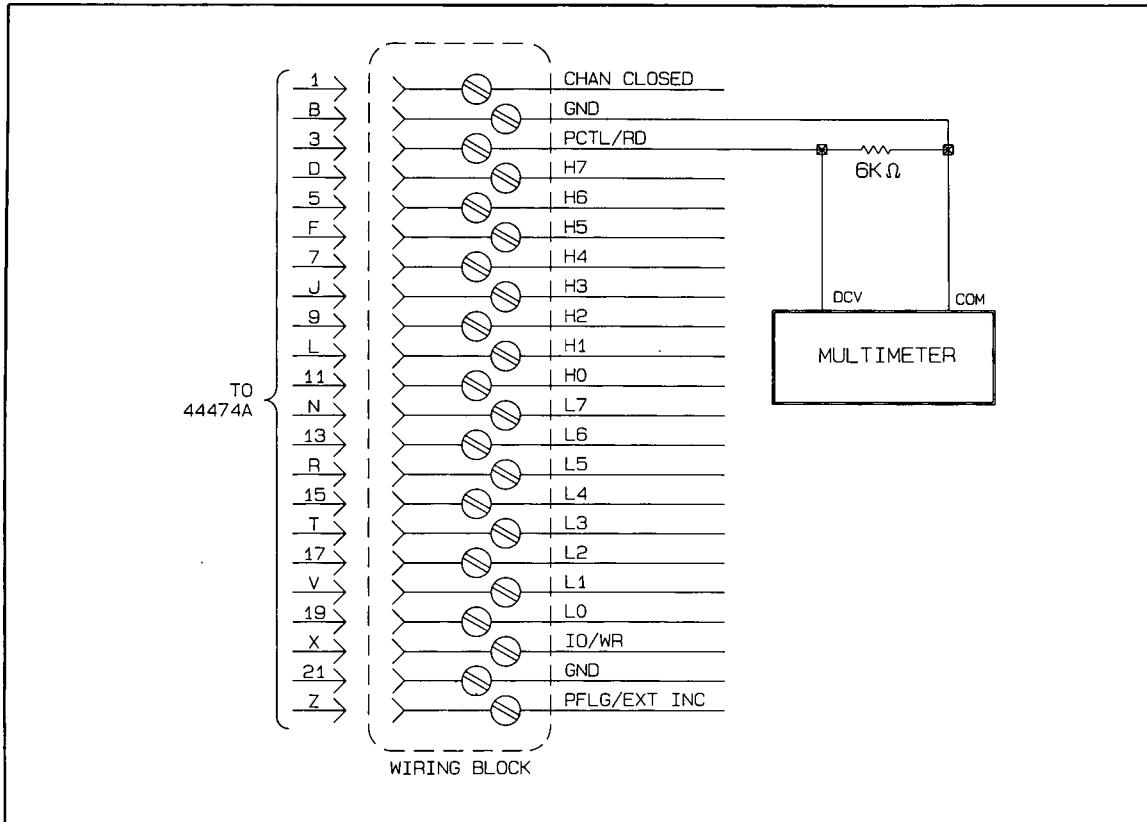

Figure 12-6 Control Line High Output Test
14. Connect the multimeter and the 6k ohm resistor to the PCTL/RD line as shown in Figure 12-6. The dc voltage should be $\geq 2.4\text{Vdc}$.